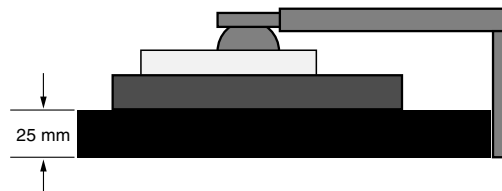

Figure S.1
3. Place monitor face down on a non-abrasive surface. (Place the screen on a 25 mm platform so that the stand is parallel with the surface) (**Figure S.1**).